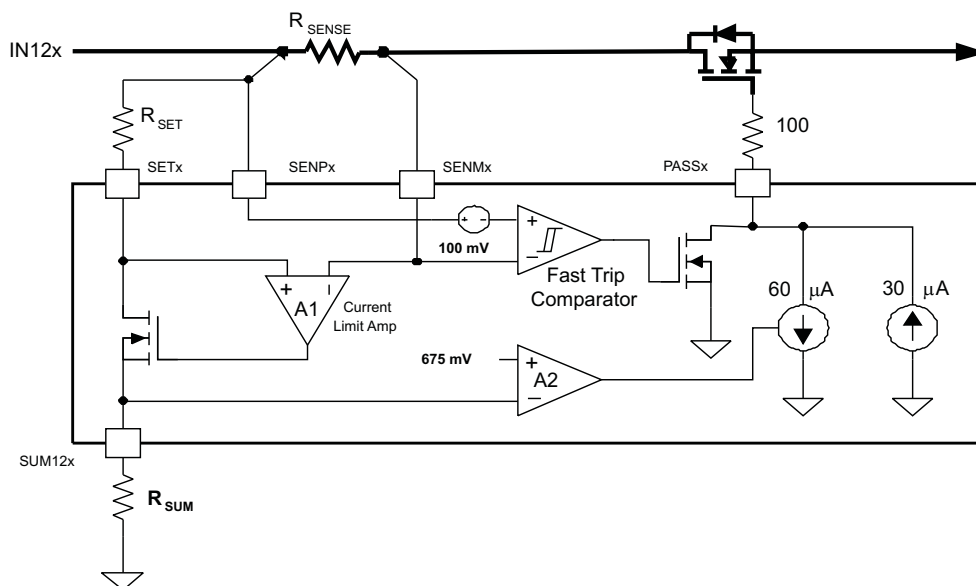

Figure 21. 12-V Channel Threshold Circuitry
**Figure 21** shows a simplified block diagram of the circuitry associated with the fast trip and current limit circuitry within a 12-V channel. Each 12-V channel requires an external N-channel pass FET and three external resistors. These resistors allow the user to independently set the fast trip threshold and the current limit threshold, as described below.
The 12-V current limit function regulates the PASSx pin voltage to prevent the current through the channel from exceeding  $I_{LIMIT}$ . The current limit circuitry includes two amplifiers,  $A_1$  and  $A_2$ , as shown in **Figure 21**. Amplifier  $A_1$  forces the voltage across external resistor  $R_{SET}$  to equal the voltage across external resistor  $R_{SENSE}$ . The current that flows through  $R_{SET}$  also flows through external resistor  $R_{SUM}$ , generating a voltage on the 12SUMx pin equal to: